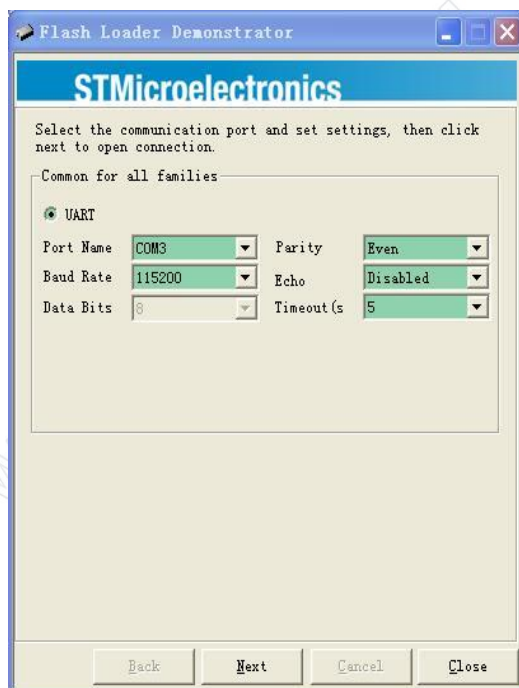

Fig. 5
- 3) Launch Flash Bootloader Demonstrator and proceed to the state as shown in Fig. 5. Here you need to setup some parameters for the serial connection. Please set the parameters to what illustrated in Fig. 5. For Port Name you need to choose the one corresponding to WAVE2. Find it out by plugging and unplugging the USB cable.